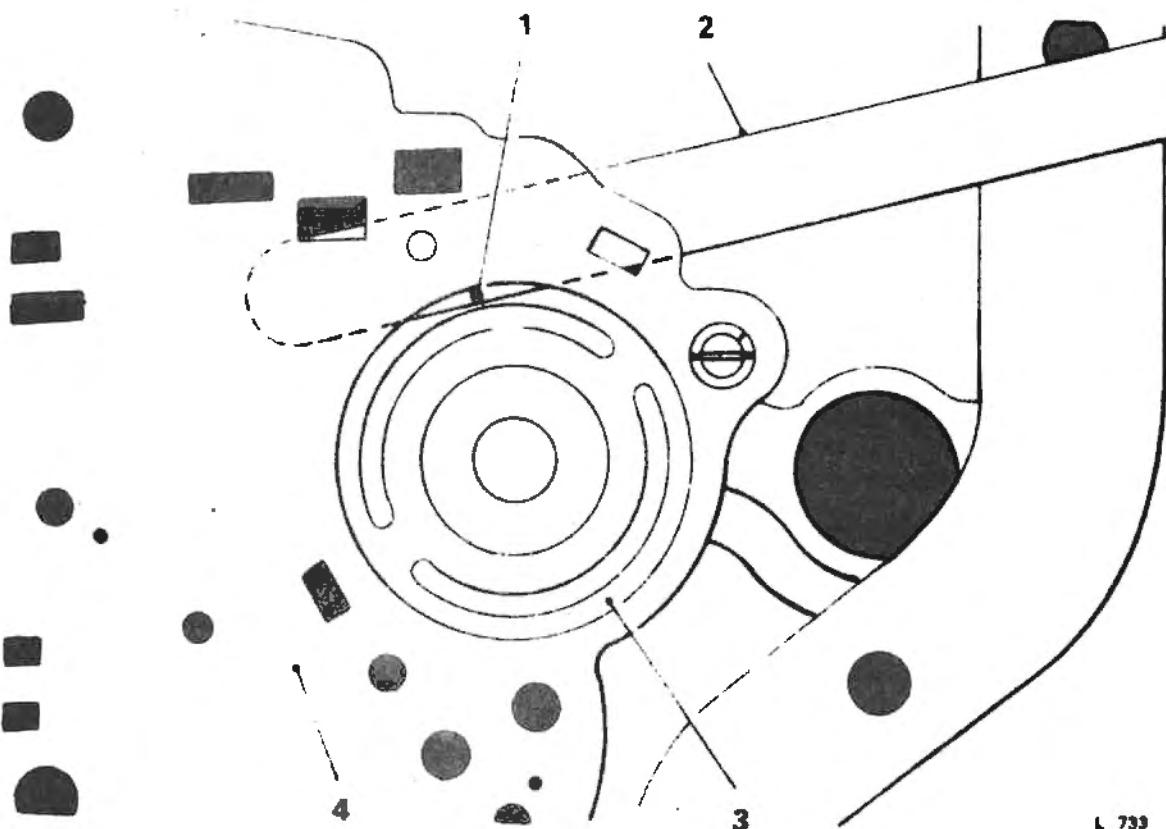

Fig. 1 Method of temporarily holding front servo piston in position (Transmission installed in a vehicle).
2. With the front servo piston and related parts (see Fig. 78 Section 10 - Workshop Manual T.S.D. 2271) held in position by hand, place a length of clean 0.020 in. (0.0508 cm.) feeler gauge across the front servo piston between the spacer plate and case as illustrated in Figure 1. This is to hold the front servo piston in position long enough for the accumulator piston to enter the front servo piston.